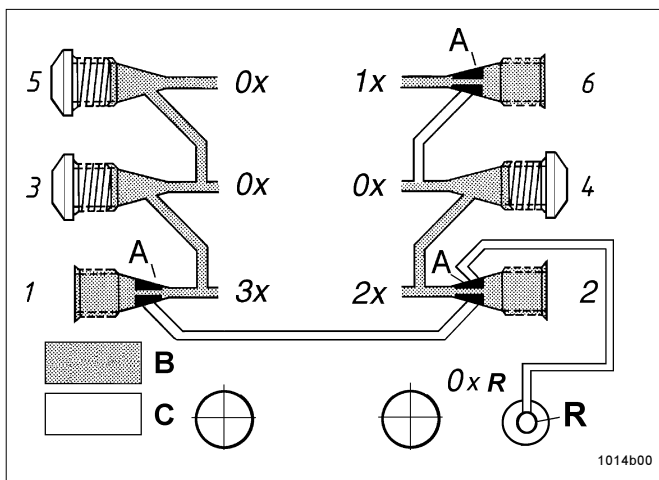
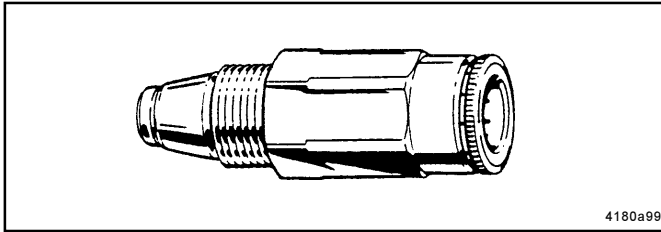

Fig.1 - Single double and triple lubricant output, on back side mouted divider blocks
Fig. 3 -Check valve, push-in type
- Each outlet used must be equipped with an appropriate check valve see page 4, Fig.3.
- Lubricant from a plugged outlet is redirected to the next outlet on the same side of the SSV divider block in descending numerical order (see Fig.1). For instance plugging outlets 5 and 3 will triple the amount of lubricant at outlet 1.
- * Install a closure plug in each outlet port hole which is not required, see Fig. 1 or 4.
- * Install one complete check valve in each outlet port hole which will be used, see Fig. 1 and 4.
Important: To change the outlet 2 for bearing lubrication, replace closure plug with check valve (Fig. 3), then never close outlet 1, see Fig. 1.